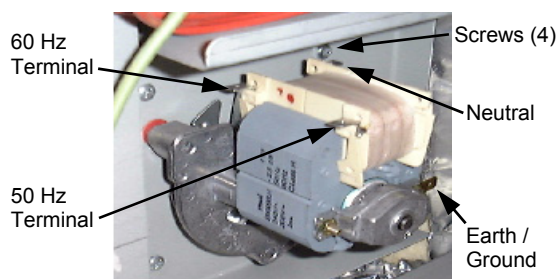

Figure 6.3.13
- 5) Ensure wire connections are correct (fig 6.3.13 and 6.3.14)